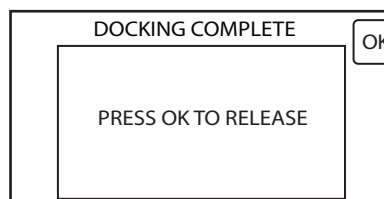

Figure 8 Docking Complete Screen
7. After the cycle is complete, the Docking Complete screen will appear on the control panel display (see figure 8). Push the button next to the OK icon to detach the rover from the docking station. Pull the rover away from the docking station.